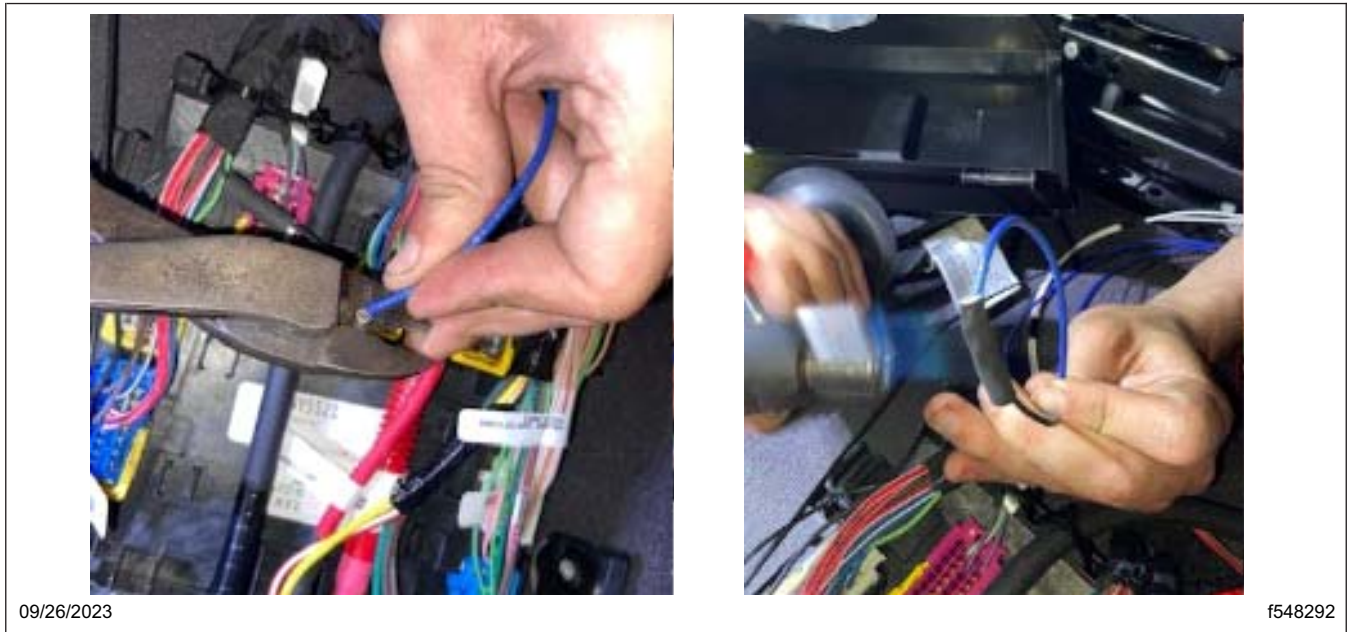

Fig. 24, Splicing the Wire
- 8.8 Splice the wire removed from cavity 1 of the SSAM X10 connector to the longer blue wire that was routed to the X10 connector in step 7. See Fig. 24.